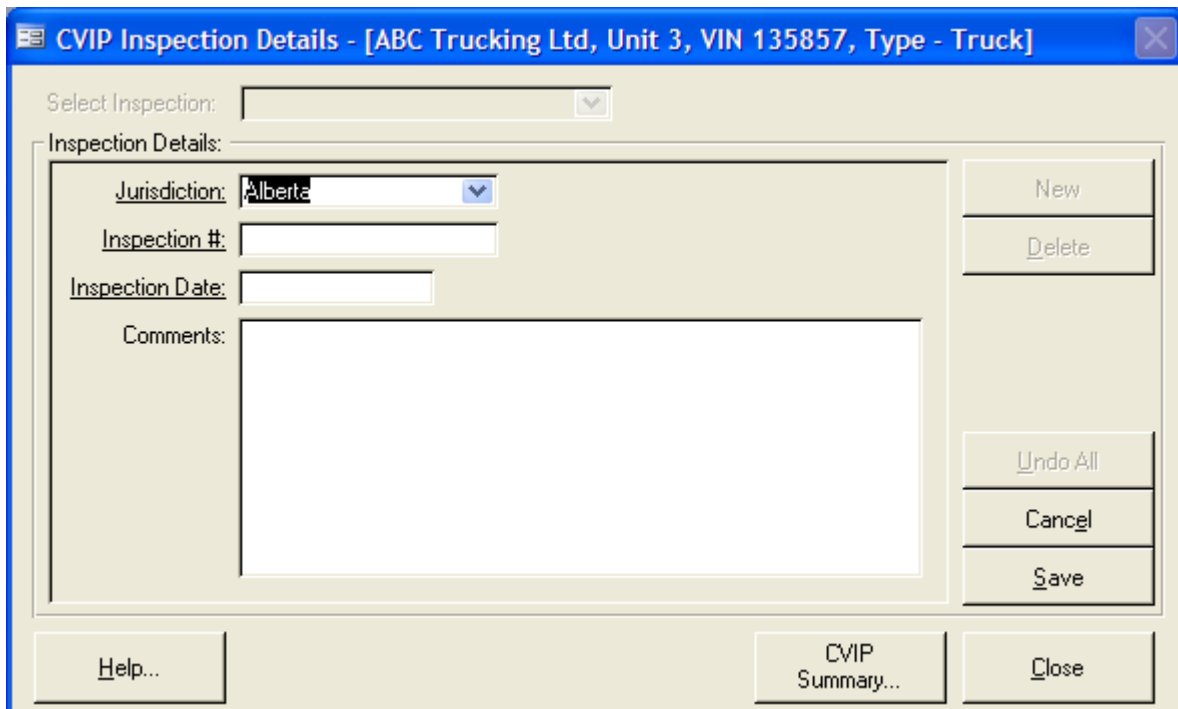

Figure 1: CVIP Inspection Information Screen
2. Select this button to enter the CVIP inspection information for the selected vehicle. The screen shown in *Figure 1* should be displayed.